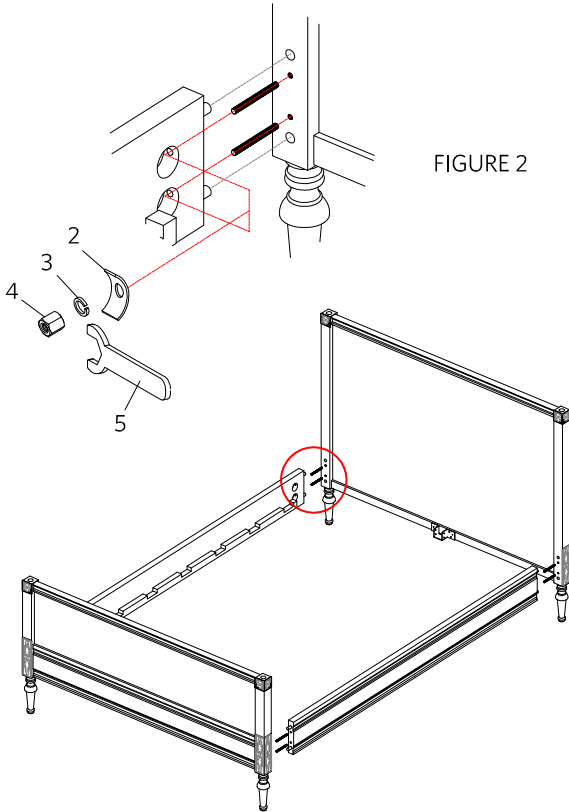
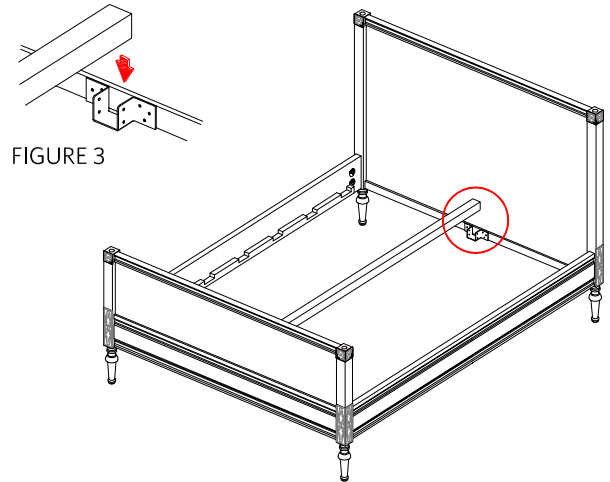

FIGURE 2
FIGURE 3
2. Place the headboard (A) upright in the position you wish the bed to be in when fully assembled.
3. Secure the threaded rod (1) to the fixed nut in the headboard (A) by simply turning it manually.
4. Raise the side rail (B) up and place the rod (1) to align with the bore holes on the end of the side rail (B). Put the side rail (B) up against the headboard (A) so the threaded rods (1) go through the bore holes. Insert curved washer (2), lock washer (3) and place hex nuts (4) on threaded rod (1), then tighten the hex nuts (4) with wrench (5) as illustration in FIGURE 2.
5. Repeat the above procedure with the other side rail (B) to attach it to the headboard (A), and then repeat to connect side rails (B) to the footboard (C).
6. On inside of both headboard (A) and footboard (C) are pre-installed brackets for the support slat (E). Set the support slat (E) on the bracket as illustration in FIGURE 3.